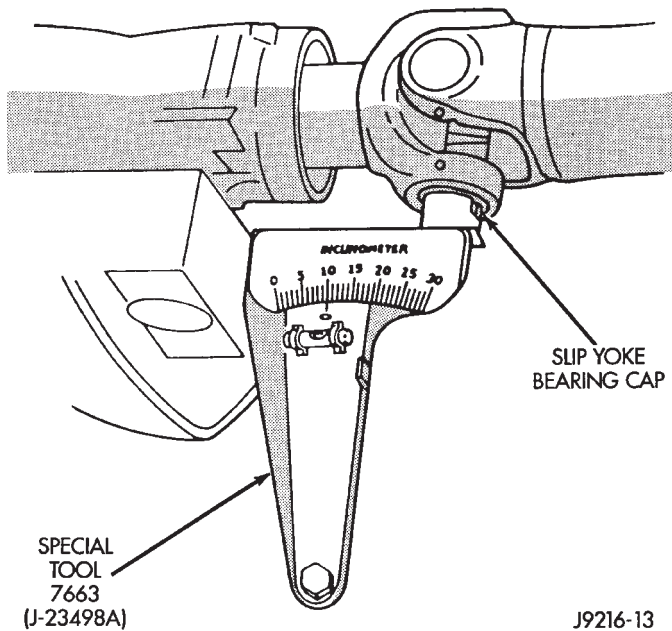

Fig. 8 Front (Output) Angle Measurement (A)
(2) Place Inclinometer on yoke bearing cap (A) parallel to the shaft (Fig. 8). Center bubble in sight glass and record measurement.